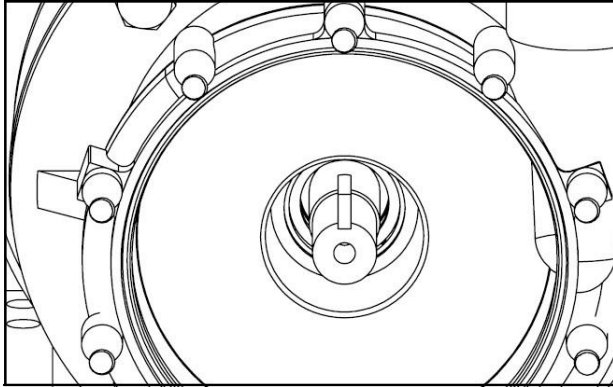

Figure 17
8. Rotate the motor shaft so the keyway is on top (at the 12:00 position and is in line with the seal pin, Figure 17).